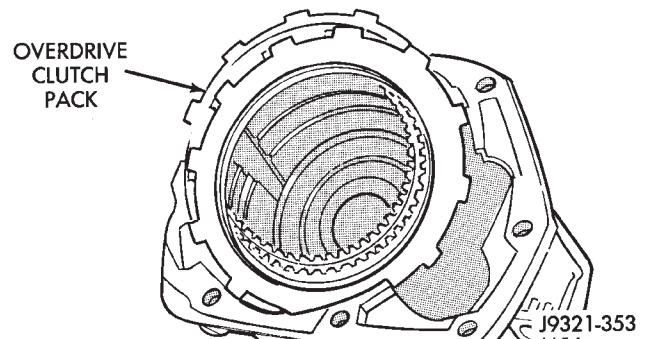

Fig. 188 Overdrive Clutch Pack Removal
(2) Remove overdrive clutch pack (Fig. 188).